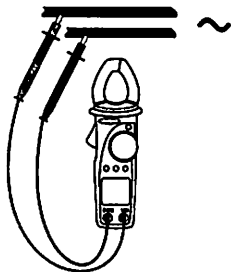

Fig. 4: AC voltage measurement
3. Connect the test leads to the circuit under test (see Fig. 4 and Fig. 5). The instrument automatically selects AC or DC. For AC voltage measurements, the frequency value is shown on the secondary display.